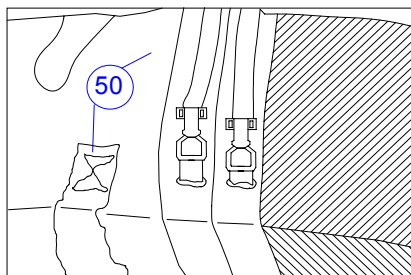

Fig. 4
4. **DEBRIS BAG (Item 50)** (see figure 4).